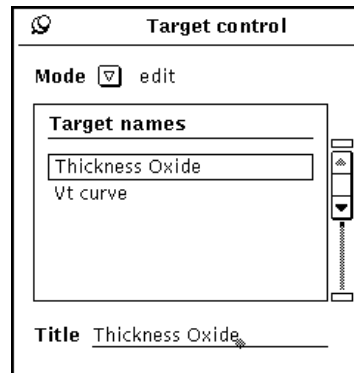

Figure 6-20: Target Control Popup - Edit Mode
1. Choose **Control...** from the **View** pulldown menu and the **Target control** popup will appear (Figure 6-20).